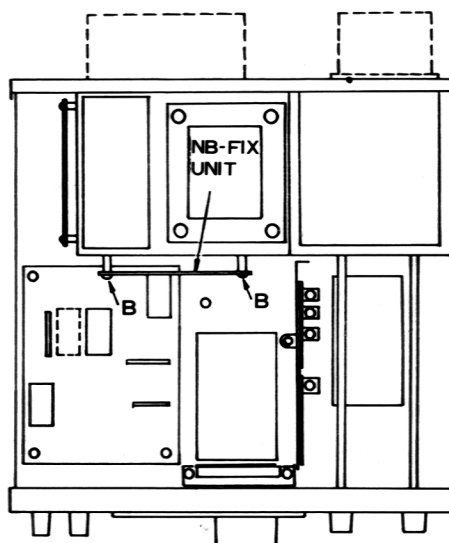

Figure 2
- (2) Refer to Fig. 2, and locate the NB-FIX circuit board. Remove its mounting screws, because this board is obstructing the removal of the IF unit.
- (3) Remove the 12-pin, 13-pin, and 15-pin plugs from their sockets on the IF unit. Remove the IF unit mounting screws, and remove the IF unit from the transceiver case.
- (5) Re-install the IF unit, being careful to connect the 12-pin, 13-pin, and 15-pin plugs in the correct sockets. Refer to Fig. 2 to be sure. Re-install the NB-FIX unit, and replace the top cover of the transceiver.
- (6) When the optional CW filter is installed, the CW-N position of the mode switch will activate this filter. In the CW-W position, the SSB 2.4 kHz filter will be in use. The WIDTH control is usable in all modes, except FM mode.